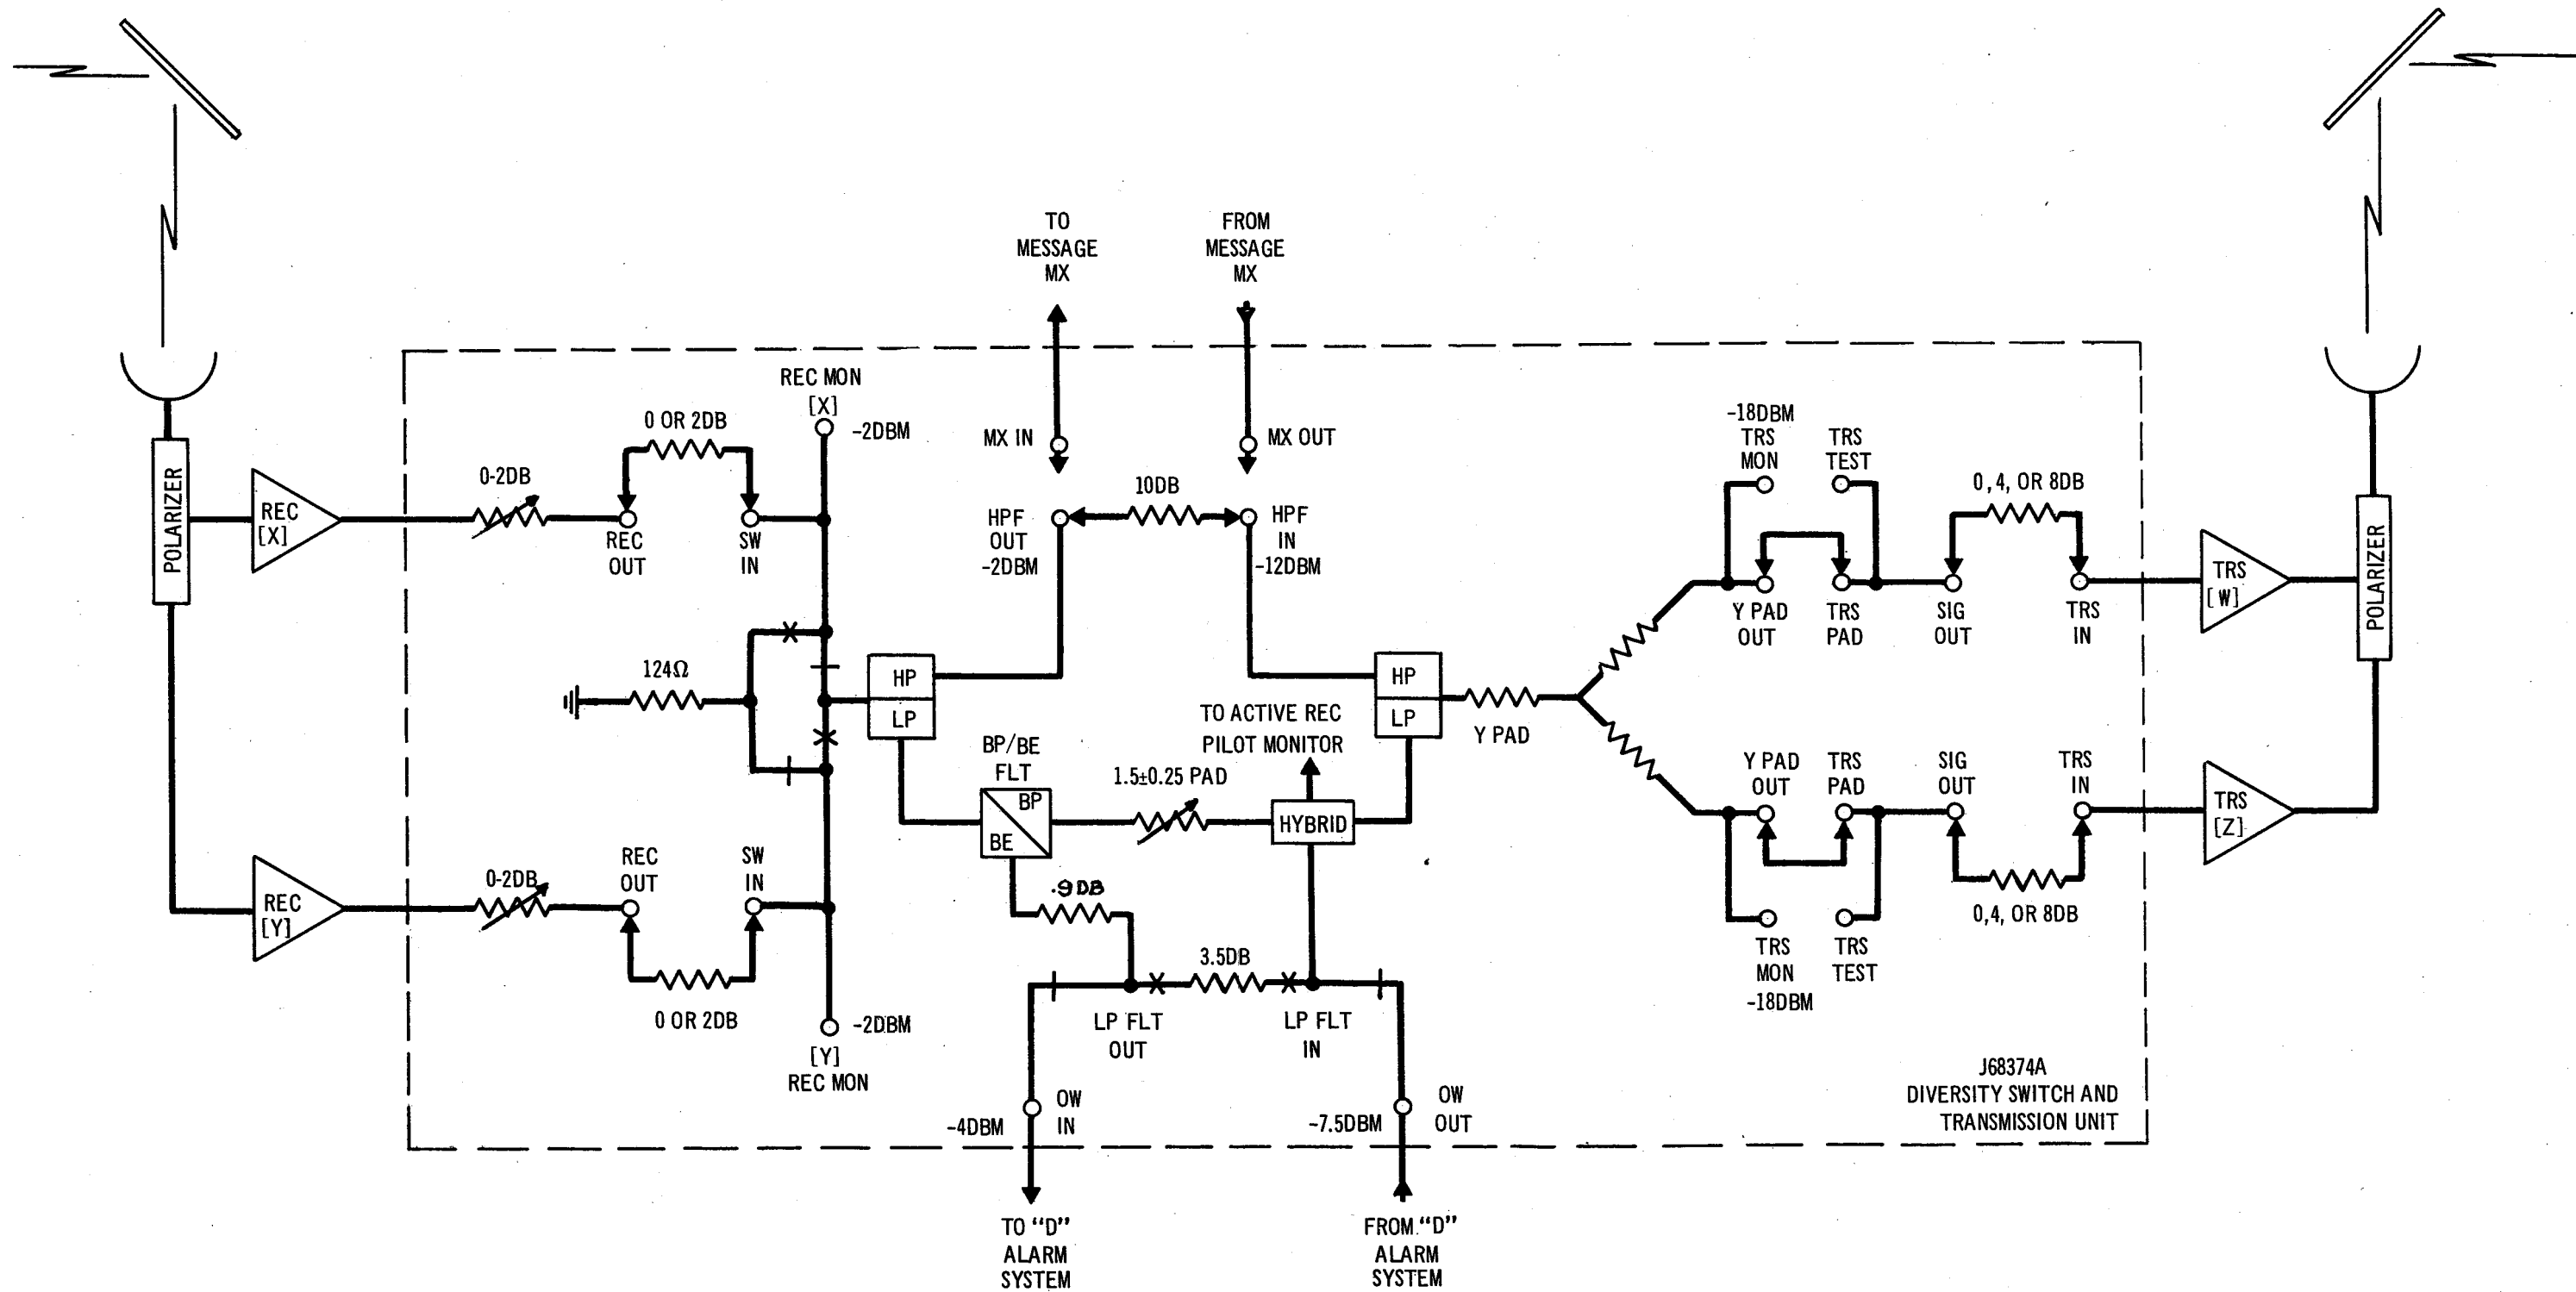

Fig. 2 - Typical TJ Radio Repeater — (Levels with 8 mc Peak-to-Peak Deviation)
**1.08** A system consists of a combination of through (repeater) or dropping and inserting (terminal) radio arrangements. Levels and patching arrangements will necessarily vary with the type of multiplex and route arrangement. Figure 1 (terminal) and Figure 2 (repeater) show levels corresponding to single tone full deviation of the radio. These levels were chosen since they are used in alignment of individual radio components. Figures 1 and 2 merely show level relationships of various points in the system. They should not, under any circumstance, be used in aligning the system.